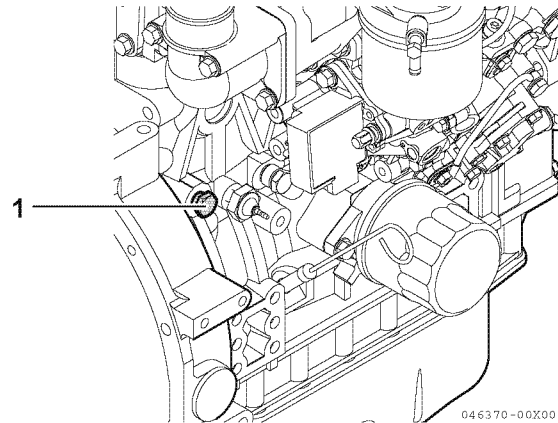

Figure 5-18
- On models not equipped with an oil cooler, remove the engine coolant drain plug (1, **Figure 5-18**) from the engine block.